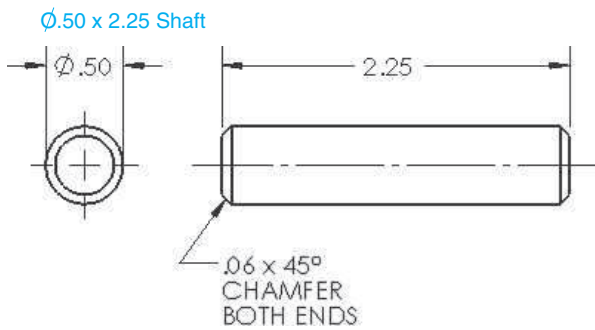

Figure 10-23
- 1 Start a new **Part** drawing and create the $\text{Ø}0.50 \times 2.25$ shaft shown in Figure 10-23.